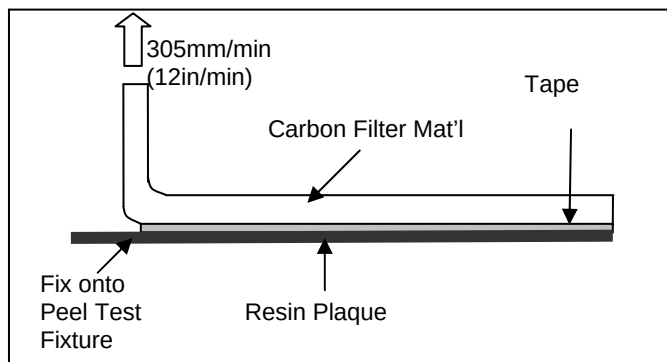

Figure 1: 90° Peel test set-up
The test setup for peel adhesion is illustrated in figure 1.
1. Adhere the first 102mm of a 178mm X 12.7mm (4" of a 7" X 0.5") carbon filter material pre-bonded with transfer tape onto the appropriate resin substrate. A 2.3 kg (5 lbs) roller should be used to obtain uniform pressure when applying the carbon filter material to the resin plaque. 10 specimens are needed (See Figure 1) for testing. Inspect for streaks, blisters, or wrinkles.
8. Perform peel strength within one hour of cooling to ambient temperature per ASTM D1000 adhesion test modified using a 90° peel fixture (or variable angle peel fixture set to 90°), test speed 305mm/min (12 in/min). The fixture must permit forward motion of the substrate to maintain the 90°. See Figure 1.